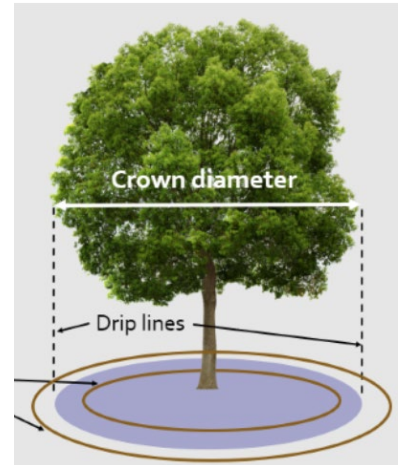

Figure 1. Tree protection zone should be to dripline.
- A protection zone should extend to the drip line of the tree (see Figure 1) and should not be entered unless watering the tree. If a contractor has questions about the dimensions of the tree protection zone or in instances where there may be an oblong or one-sided critical root area, consult the UNM Grounds & Landscaping Manager or Campus Arborist for assistance determining the protection zone.